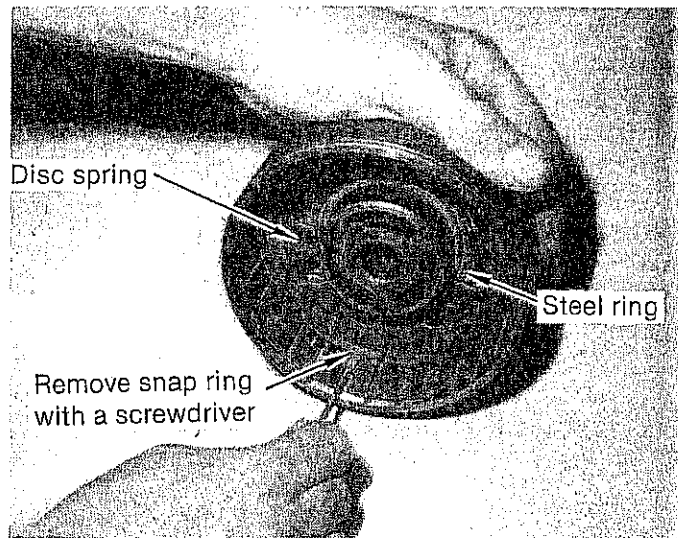

FIGURE 32
STEP 2. Remove the snap ring holding the dished disc spring in place. (See Fig. 32) Remove piston return spring and steel ring. Remove the piston from the clutch cylinder. Remove and discard the outer rubber lip seal from the piston and the inner seal from the clutch cylinder.